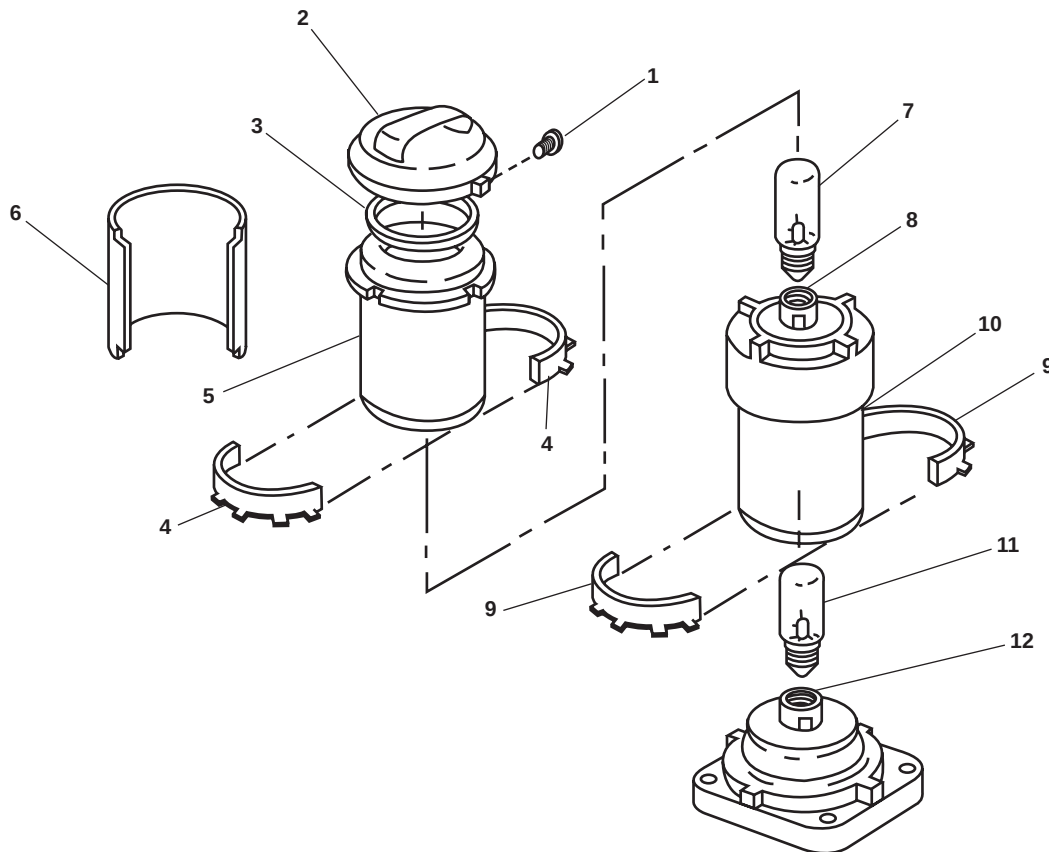

Figure 2. Repair Navigation Light (Double Lens)
1. Loosen the setscrew (figure 2, item 1) and remove the lid (figure 2, item 2) and gasket (figure 2, item 3). Discard the gasket.
2. Remove the upper clamp (figure 2, item 4).
3. Remove the upper lens (figure 2, item 5) and the screen (figure 2, item 6).
4. Remove the upper lamp (figure 2, item 7) from the upper socket (figure 2, item 8).
5. Remove the lower clamp (figure 2, item 9).
6. Remove the lower lens (figure 2, item 10).
7. Remove the lower lamp (figure 2, item 11) from the lower socket (figure 2, item 12).
1. Install the new lamp (figure 2, item 11) into the socket (figure 2, item 12).
2. Install the lower lens (figure 2, item 10) and secure it with the lower clamp (figure 2, item 9).
3. Install the upper lamp (figure 2, item 7) in the upper socket (figure 2, item 8).
4. Install the upper lens (figure 2, item 5) and screen (figure 2, item 6), securing them with the clamp (figure 2, item 4).
5. Install a new gasket (figure 2, item 3) and the lid (figure 2, item 2), securing them with the setscrew (figure 2, item 1).